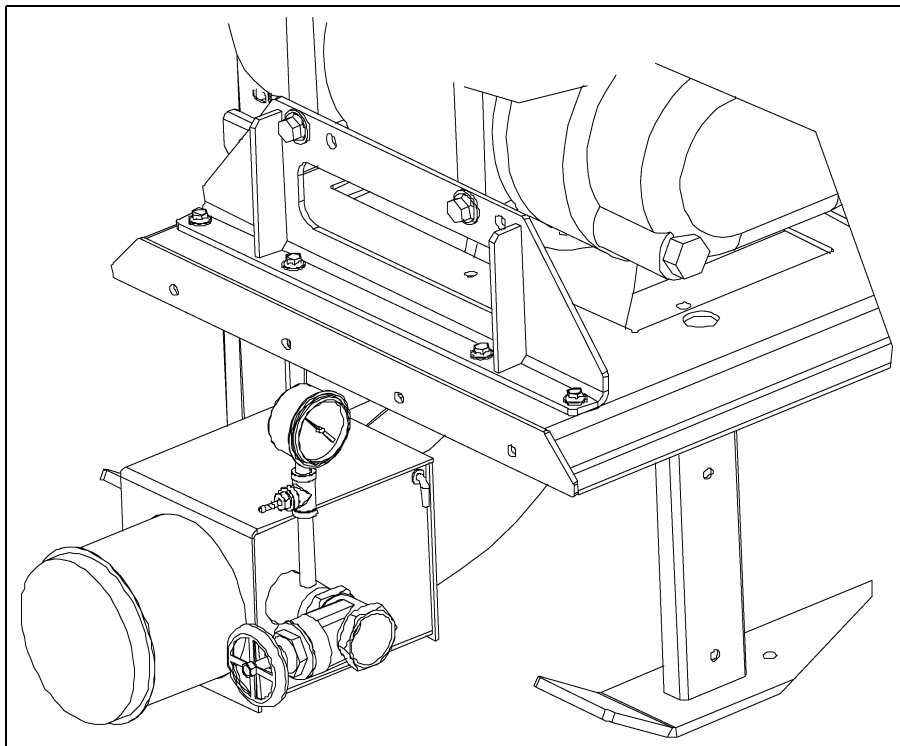

Figure 7K
- Remove 1/4" pipe plug in gate valve pipe. Install gauge assembly and attach air hose. (See Figure 7K.)